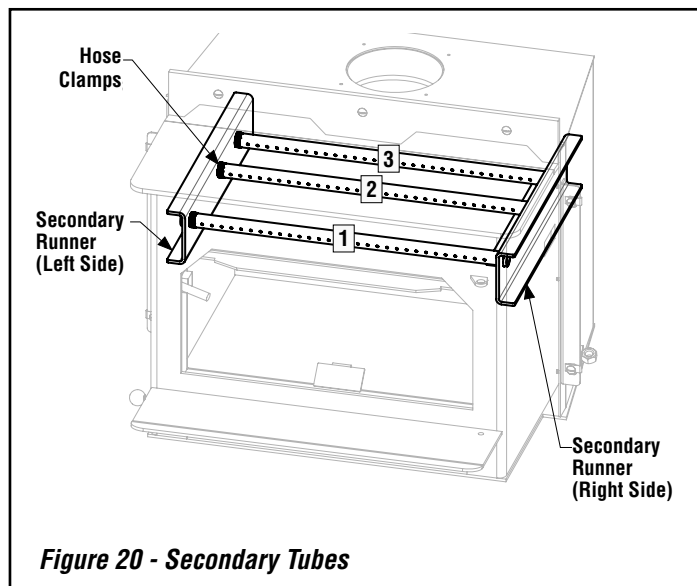

Figure 20 - Secondary Tubes
Step 2. Using a small flat blade screwdriver, loosen the hose clamps holding the secondary tubes in place. Once the hose clamps are loose, it can be moved on the secondary tube approximately 1-1/2" toward the center (see **Figure 20**).
Step 4. Raise the loose side of the secondary tube assembly above the secondary runners and then slide the secondary tube assembly out of the secondary runner. The assembly can then be carefully pulled from inside the firebox (see **Figures 20 and 21**).